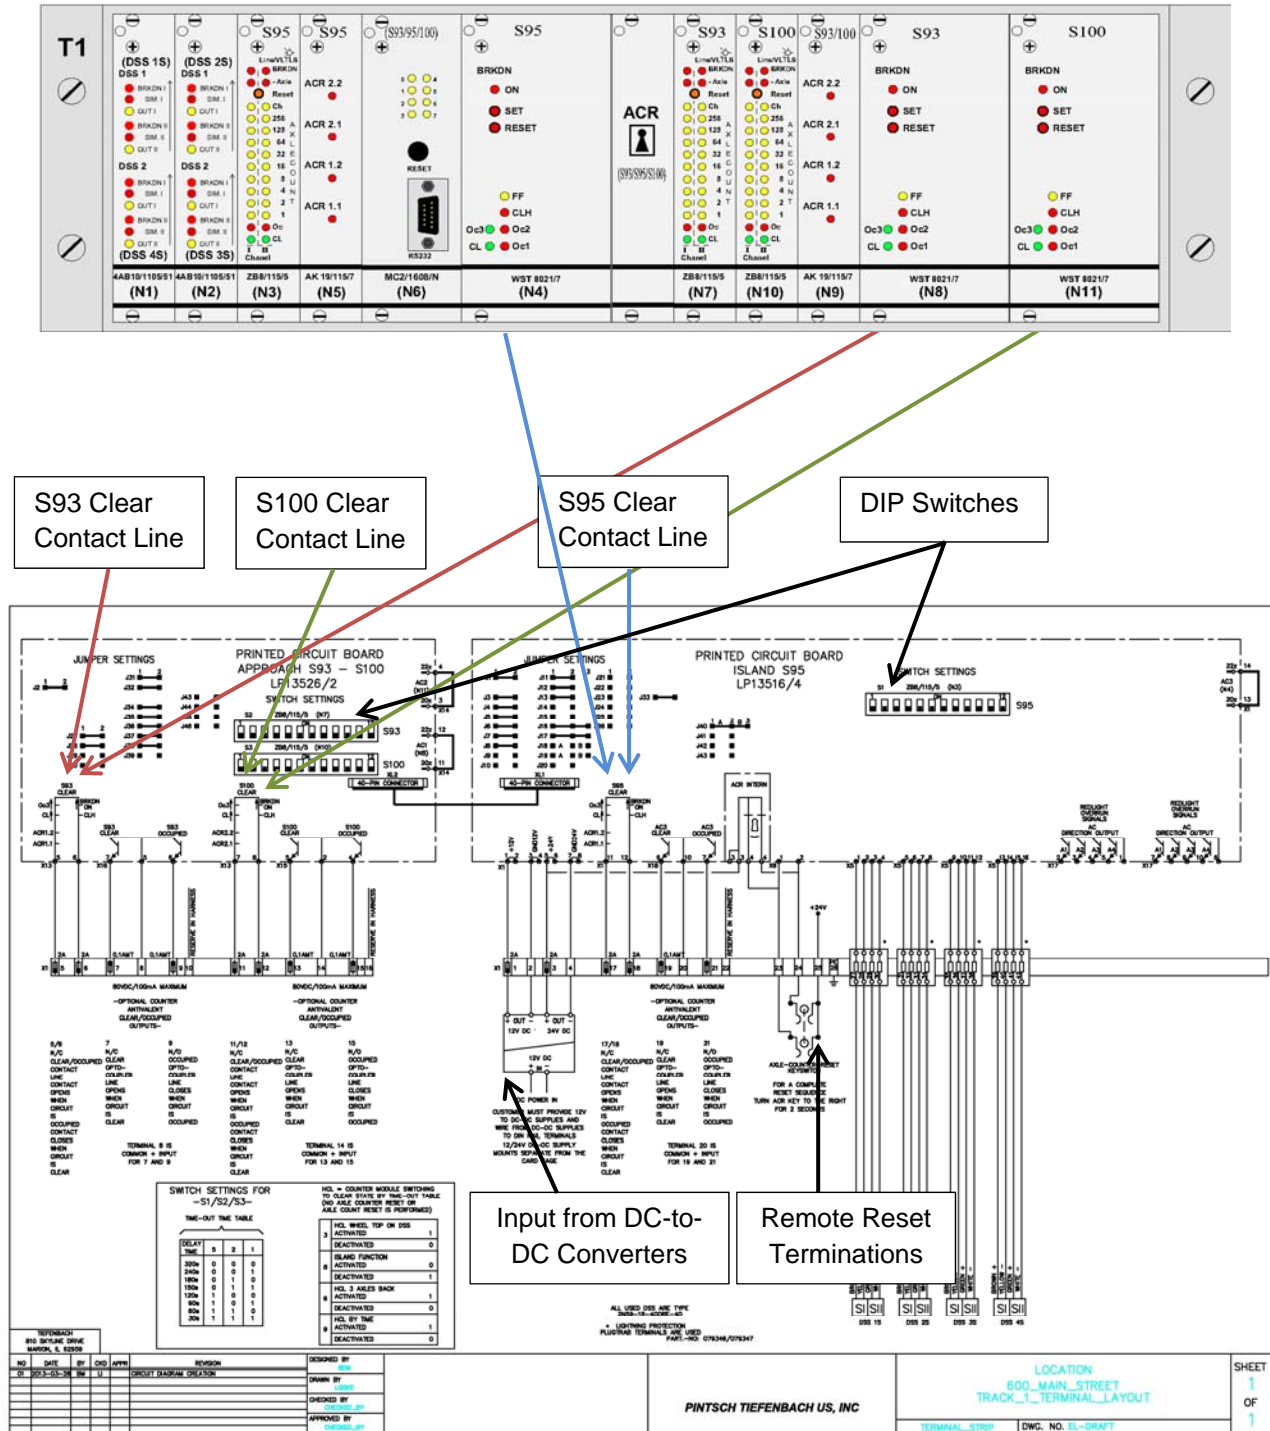

Fig. 30: Track 1 DIN rail engineering drawing showing major features. See summary in Section XV for more details
8. **Clear Contact Lines**: As discussed earlier, the clear contact is a series circuit consisting of several layers of interlaced relay contacts present on the Clear Signal Relay Module. This series circuit within the Clear Signal Relay Module is then brought out to the DIN rail where it is terminated in conjunction with the external signal line. There are three clear signal lines for track 1, one each for the S93, S95 and S100 axle counting circuits respectively. There are two clear signal lines for track 2, one each for the N93 and N100 axle counting circuits respectively. Each of these normally-closed loops is protected by a 2-amp fuse at the DIN-rail terminations. See figure 30 and 31 for greater detail.
9. **Clear/Occupied Optocoupler Outputs**: These outputs also appear at the DIN rail and are available for a variety of uses. Each of these optocoupler outputs is protected by a 100-mA fuse, which is designed to protect the optocoupler from damage in the event of a wiring error or other external fault condition. DO NOT substitute a fuse of higher current rating in these locations at the DIN rail. See figure 30 and 31 for greater detail.
**These DIP switches are all set in the OFF (0) position and should NOT be changed without prior**